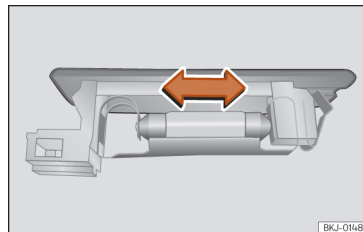

Fig. 58 Boot light.
- Press the bulb sideways and remove it from its housing »» **Fig. 58**.